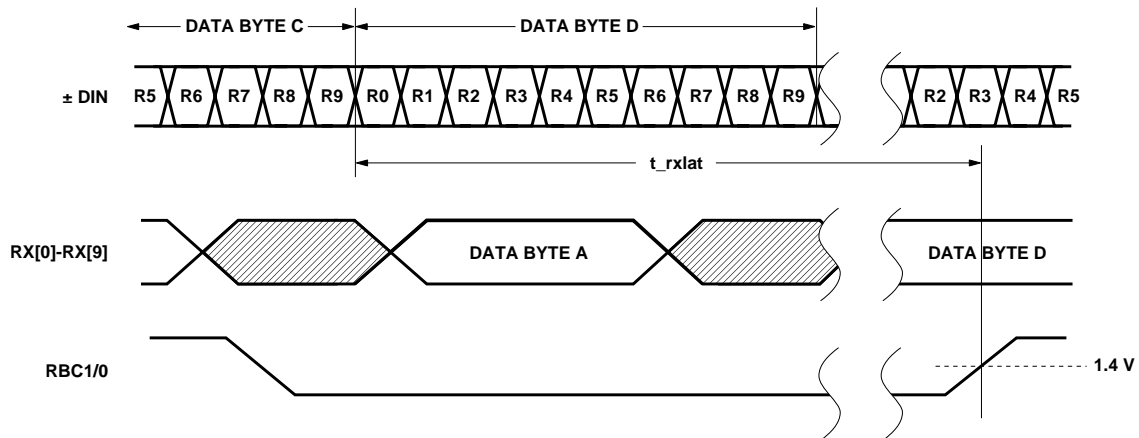

Figure 6. Receiver latency.
4. The receiver latency, as shown in Figure 6, is defined as the time between receiving the first serial bit of a parallel data word (defined as the first edge of the first serial bit) and the clocking out of that parallel word (defined by the rising edge of the receive byte clock, either RBC1 or RBC0).
5. The receiver latency, as shown in Figure 6, is defined as the time between receiving the first serial bit of a parallel data word (defined as the first edge of the first serial bit) and the clocking out of that parallel word (defined by the rising edge of the receive byte clock, either RBC1 or RBC0).